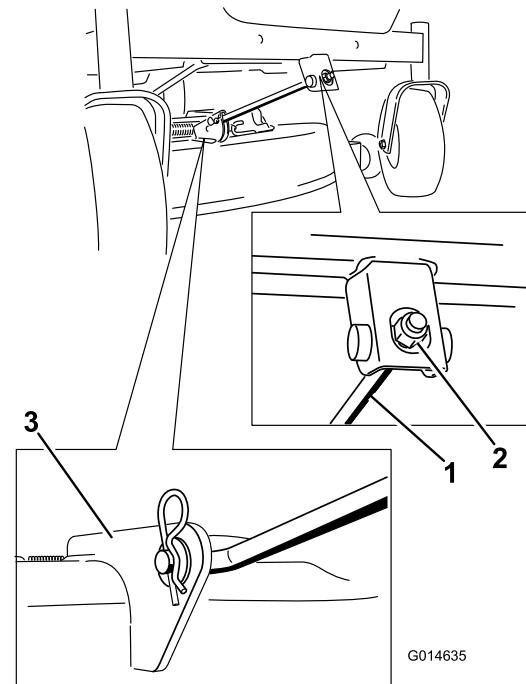

Figure 58
- Attach the front support rod to the mower deck with the clevis pin and hairpin cotter (Figure 58).